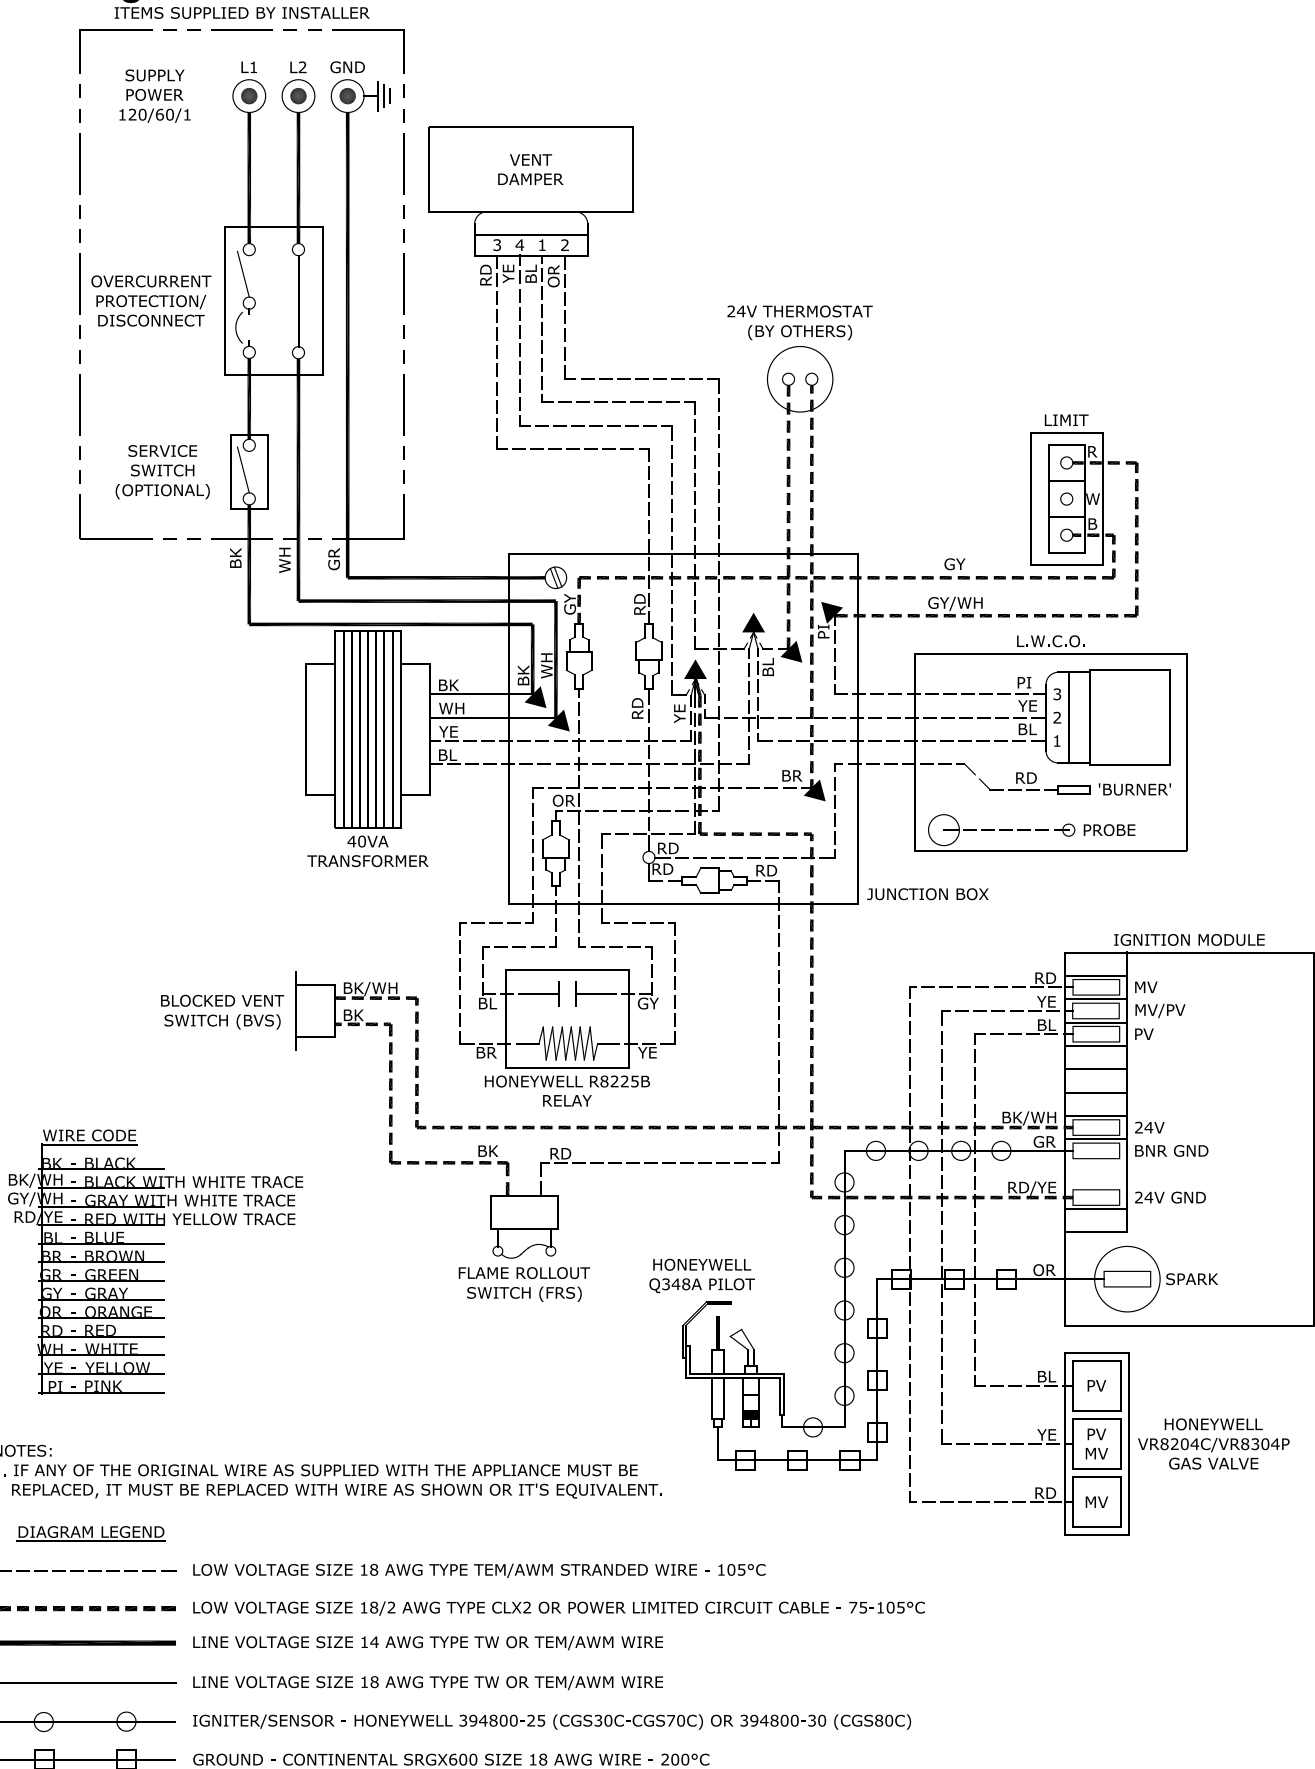

Figure 11-1: Gas Steam Boiler Connections Diagram, Hydrolevel CG-400A LCWO
1. 120 Volt Wiring - The boiler should be provided with its own 15A branch circuit with fused disconnect. All 120 volt connections are made inside the junction box on the right side of the boiler. Remove the transformer to gain access to this box (also see Figure 11-1):